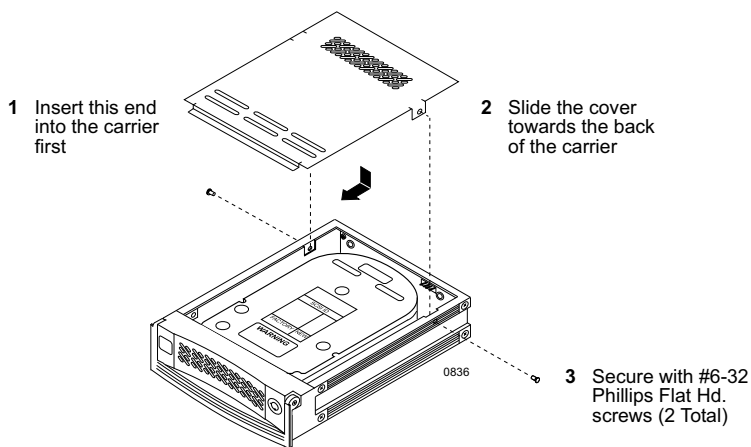

Figure 6: Drive Cover Installation
4. Install the provided drive cover (Figure 6).